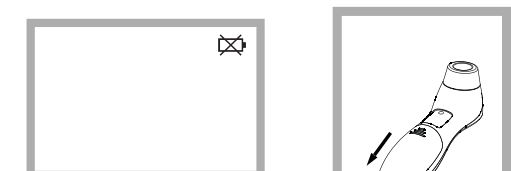

Figure 8
- 1. Replace battery when "Lo" appears in the upper right corner of LCD display. (See Figure 8)